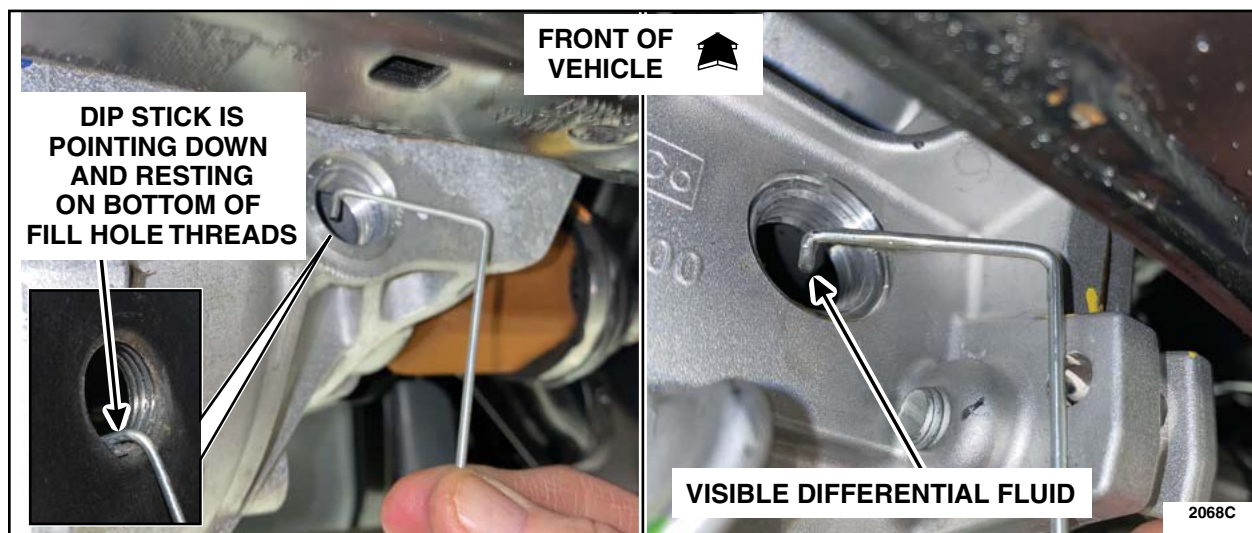

FIGURE 3
6. Wipe fill plug opening and surrounding area to insure it is free from residual fluid before proceeding. Insert the 3mm or 6mm length of the dip stick depending on vehicle line from list above (See Step 3), into the rear differential housing making sure that the dip stick is fully seated with the bend pointing down and the dip stick resting on the bottom of the fill plug threads evenly. Remove the dip stick and check for any visible differential fluid. See Figure 3.